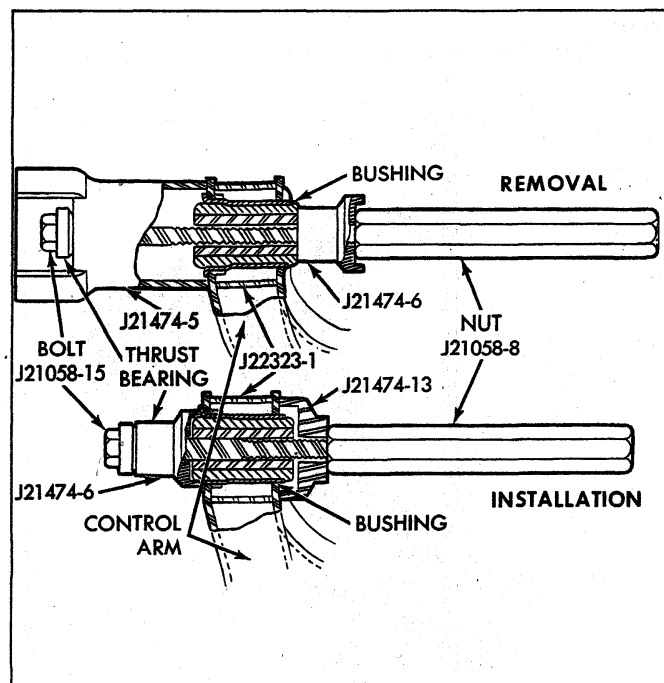

Fig. 33 - Lower Control Arm Bushing - Small - Chevelle & Camaro
1. Remove and install the small bushing as described above using Tools J-21058-8, J-21058-15, J-21474-5, J-21474-6, J-22323-1 and the thrust bearing for installation and Tools J-21058-8, J-21058-15, J-21474-6, J-21474-13, J-22323-1 and the thrust bearing for removal as shown in Fig. 33.